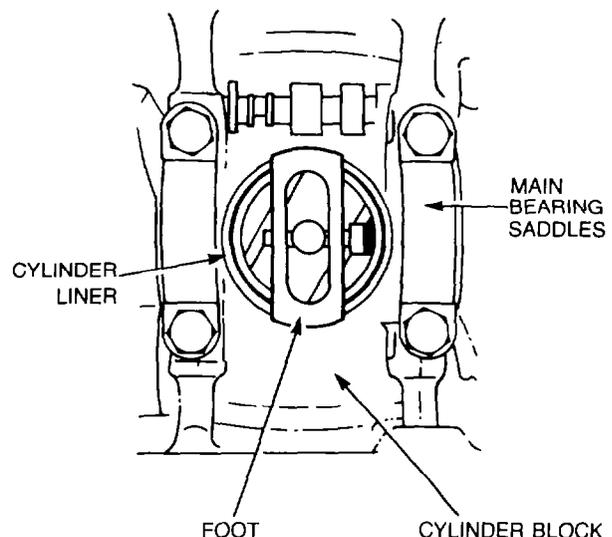

Figure 35 — Cylinder Liner — Removal
- a. Position the cylinder liner remover, special tool 3375629 over the defective cylinder liner, ensuring that the tool is seated square and firmly supported on the cylinder block top deck. Install the foot, special tool 3377057, onto the power rod of the remover, ensuring the foot is correctly positioned on the liner and parallel to the main bearing saddles (see Fig. 35), then install the retaining pin in the power rod and operate the remover using a suitable socket spanner to withdraw the liner from the cylinder block. Remove and discard the crevis seal and the O-rings, however, do not discard any shims that may be used under the cylinder flange.